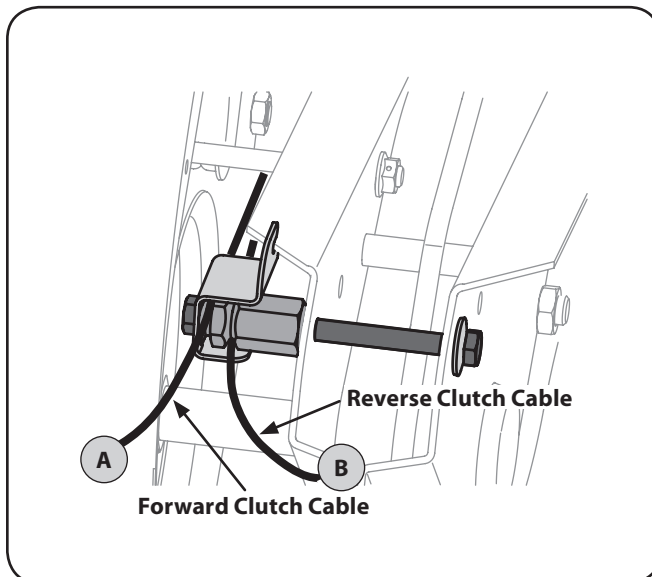

Figure 3-1
1. Identify the forward clutch cable and reverse clutch cables. Figure 3-1.